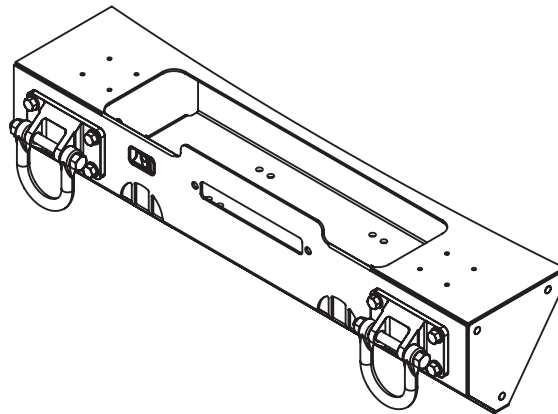

Figure 1
1. Center Section of Modular HD Bumper should already be installed on vehicle. If hoop is replacing a different style of hoop, remove it such that you are left with empty top holes, as shown in Figure 1.